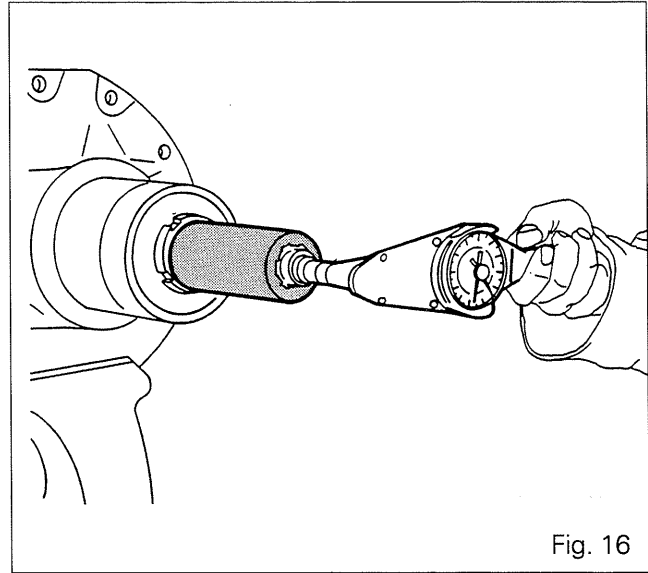

Fig. 16
54. Rotate the bevel drive pinion through several turns using a dial type torque wrench and the special sleeve (Fig. 16). Then, check that the torque is between 2 and 4 Nm.
55. After checking the torque, remove the nut (1) and coat it with Loctite 270.